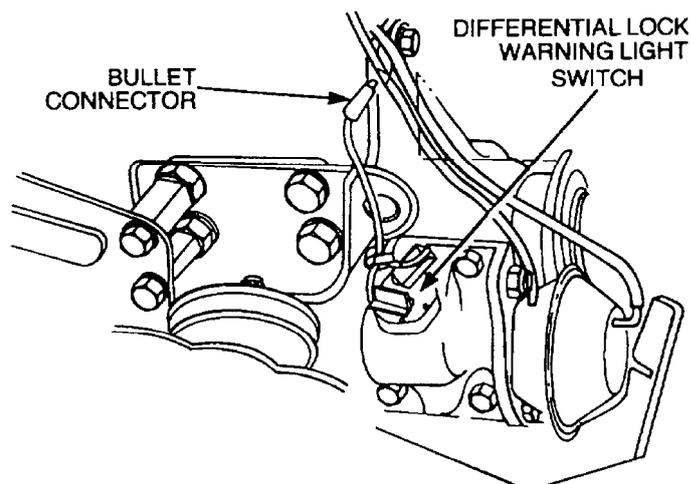

Figure 48 Differential Lock Disconnection
- r. Disconnect the bullet electrical connector from the differential lock warning light switch (Figure 48).
- aa.** Install the bullet electrical connector on the differential lock warning light switch (Figure 48).